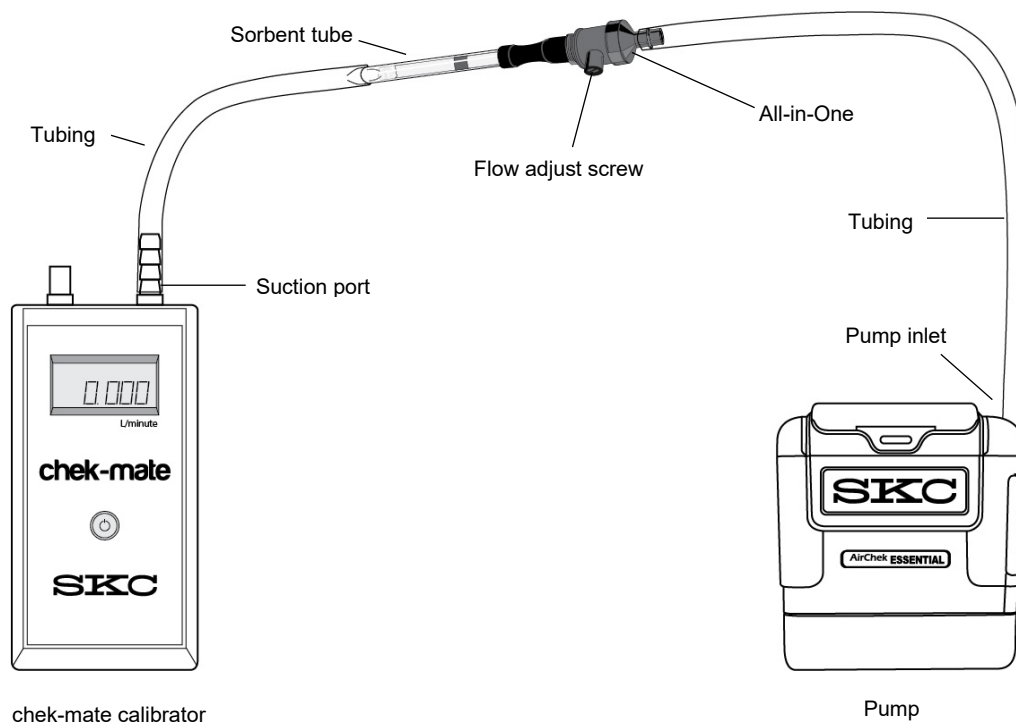

Figure 4. Calibration Train (5 to 500 ml/min) for Single Tube
1. On the tube holder, insert an opened representative tube (arrow on tube pointing toward the pump) into the rubber sleeve on the port. *See Figure 4.*
### Set Up the Calibration Train (Figures 4 and 5)